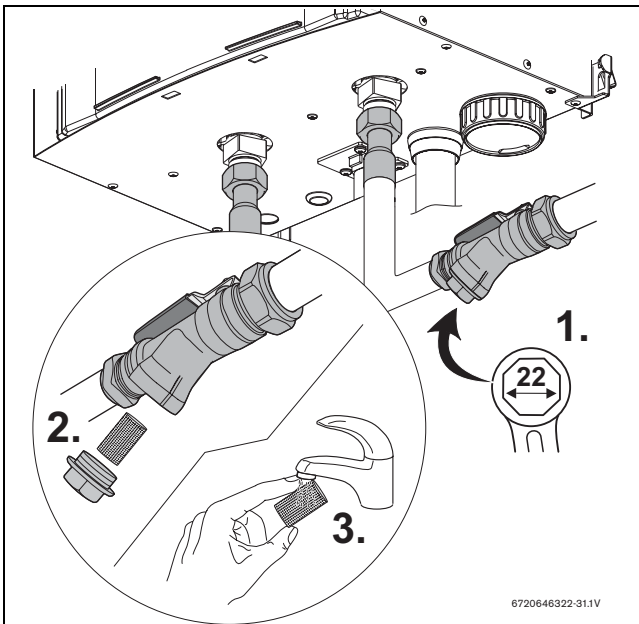

Fig. 65
- ▶ Remove the water valve filter (→ Fig. 65).